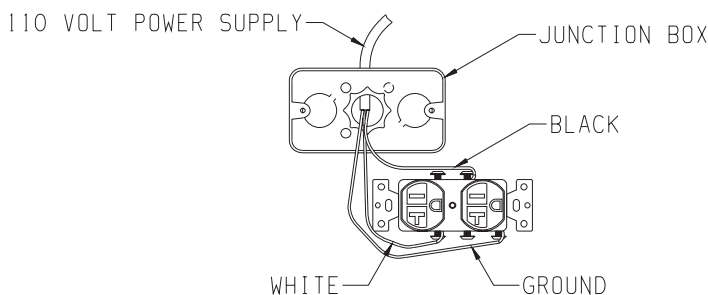

Figure 13
**NOTE:** Junction box on right side of firebox must be pre-wired at time of firebox installation for use with blower assembly. A standard wall ON/OFF wall switch or optional SCV1 Variable Speed Control Kit should be installed to activate power to the Firebox, and control the operation of the FBB5 Blower assembly. It is recommended that installation of the wiring be performed by a qualified electrician. **See Figure 13.**